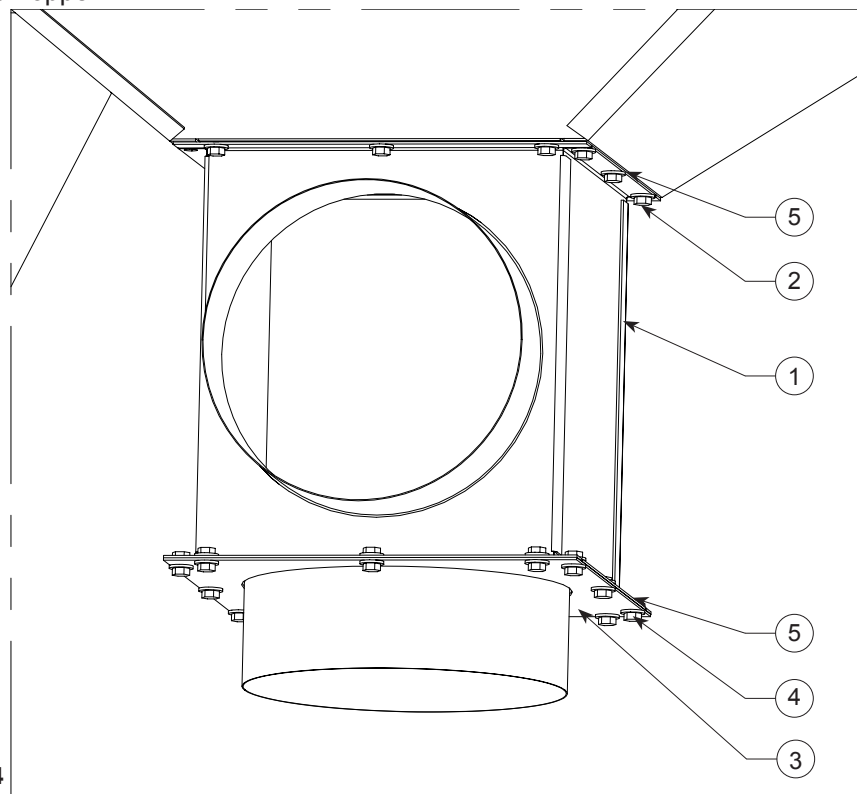

FIG. 4
- Hopper Collar can be substituted for the Drop-Out Blank Plate (As Shown in **FIG. 4**).